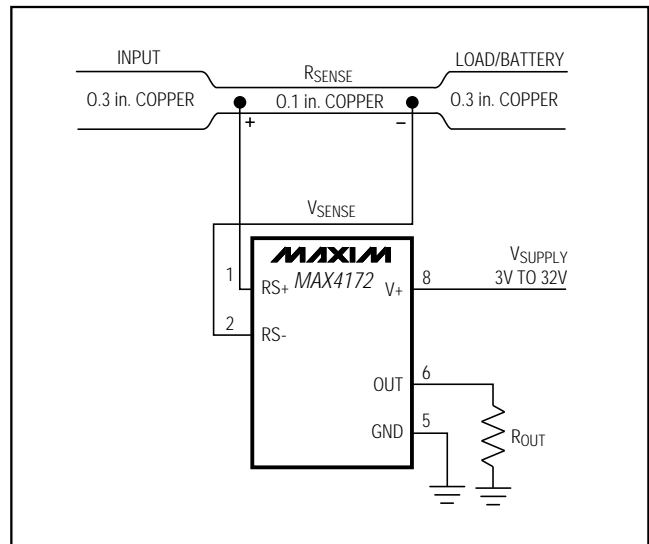

Figure 2. MAX4172 Connections Showing Use of PC Board
- Cost:** If the cost of R_{SENSE} is an issue, you might want to use an alternative solution, as shown in Figure 2. This solution uses the PC board traces to create a sense resistor. Because of the inaccuracies of the copper resistor, the full-scale current value must be adjusted with a potentiometer. Also, copper's resistance temperature coefficient is fairly high (approximately 0.4%/°C).
In Figure 2, assume that the load current to be measured is 10A, and that you have determined a 0.3-inch-wide, 2-ounce copper to be appropriate. The resistivity of 0.1-inch-wide, 2-ounce (70 μ m thickness) copper is 30m Ω /ft. For 10A, you might want $R_{SENSE} = 5\text{m}\Omega$ for a 50mV drop at full scale. This resistor requires about 2 inches of 0.1-inch-wide copper trace.